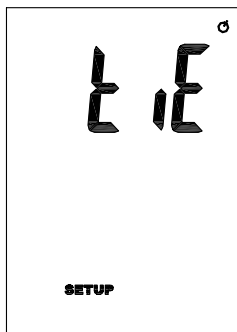

Fig. 3
2. Use the **▲/ T1-T2/T3-T4** and **Hold/▼** buttons to scroll to the **time** setting option screen (Fig. 3).